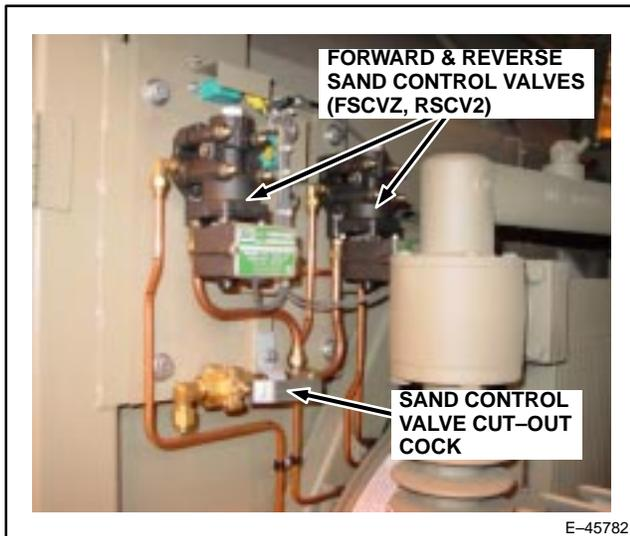

Figure 14. Sand Control Valves and Piping.
6. Sander Control Valves and Cut-Out cock – The forward and reverse sander control valves are located inside the right rear radiator cab and the right front nose cab on separate panels (Figure 14). The sand control valve cut-out cock is located here also.